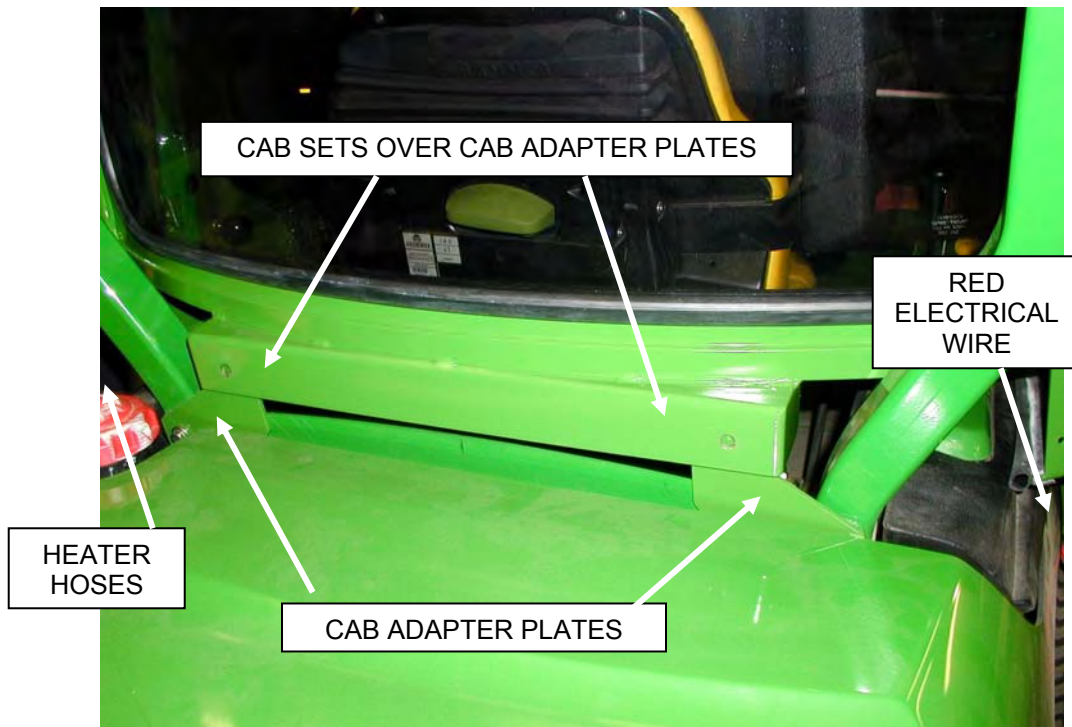

FIGURE 2-8
- 2.8) Position the cab over tractor. Carefully lower the cab down onto the unit making sure the rear of the cab is placed over the cab adapter plates, recently installed. The rear cab radius-window will fit into the roll bar area. Allow the heater hoses to fit around the left rear side of the cab and the red electrical wire around the right rear side. Center the cab, side to side. (See figure 2-8).